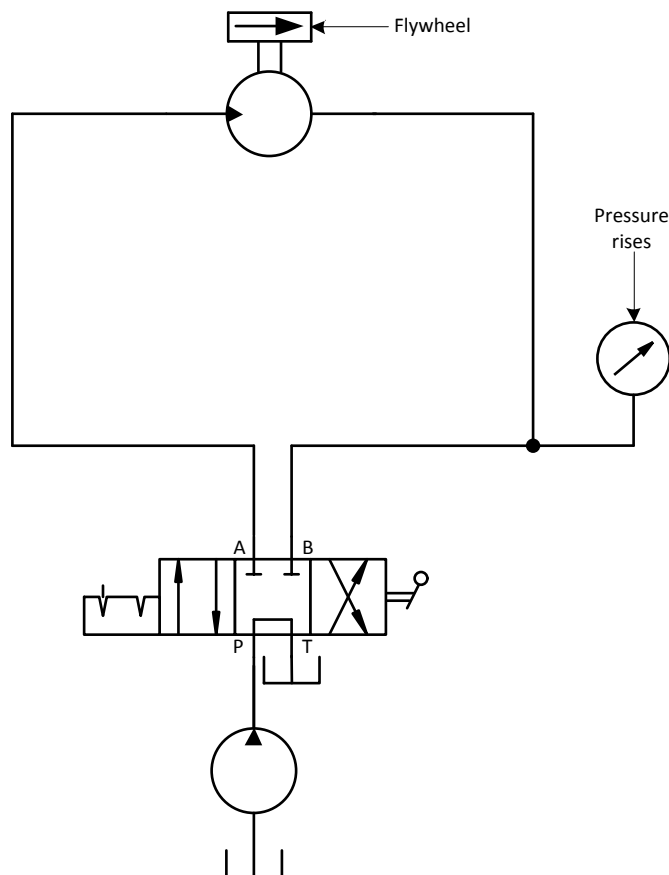

FIG 9.
- C. When the outlet lines are blocked by a 4/3-way directional control valve, the flywheel mass tends to produce further rotation of the motor. This results in the hydraulic motor displacing the oil against the blocked control valve, which causes the pressure to rise. This can result in severe damage to the hydraulic equipment. (Fig 9).